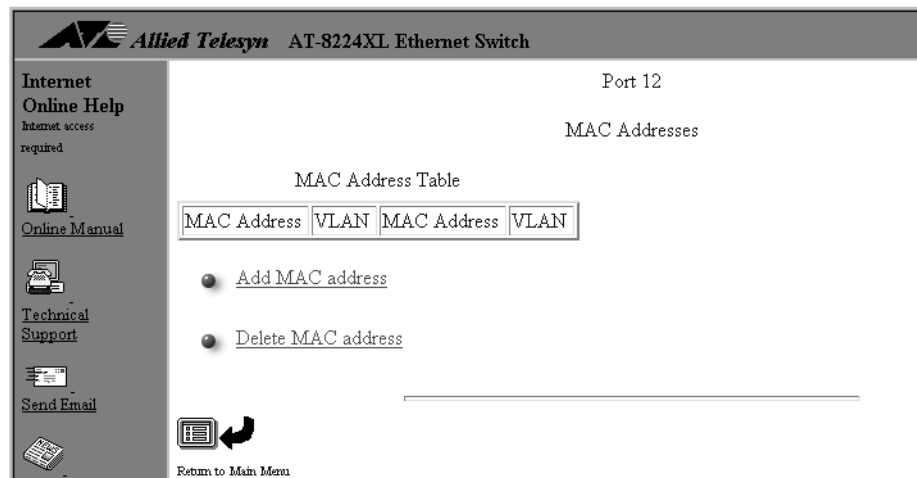

Figure 45 Static MAC Addresses Per Port Window
The window in Figure 45 is displayed. The window lists the static addresses already defined for the selected port.
3. Select the port containing the static MAC address to be deleted. The window in Figure 45 on page 93 is displayed.